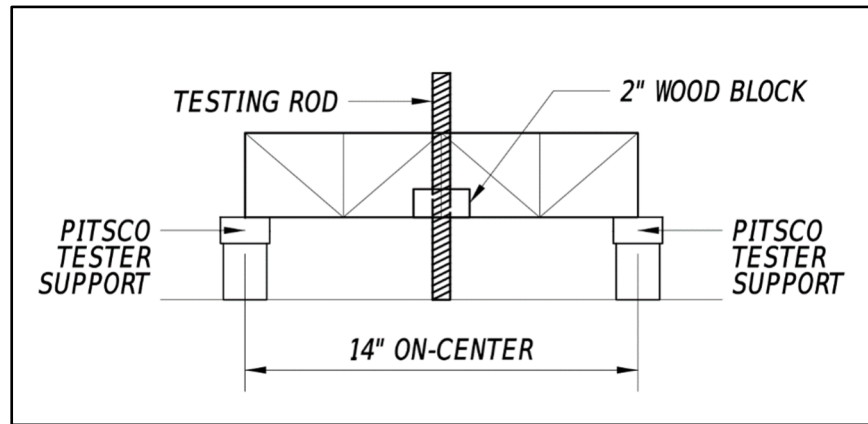
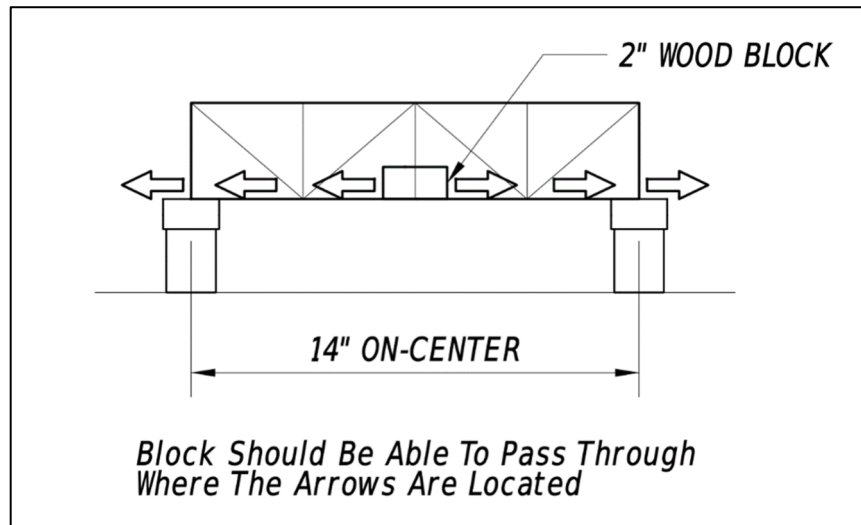
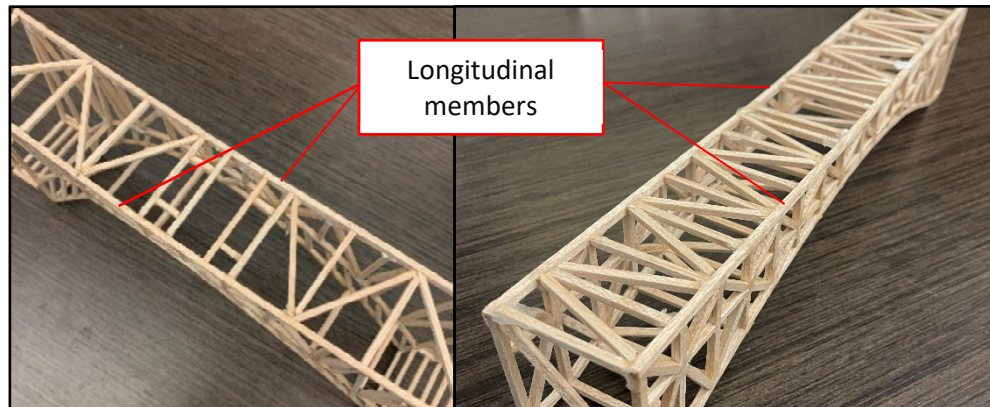

Figure 6. Tester Configuration Detail
Figure 8. Block Requirement
Figure 9. Acceptable Cross Framing
- e) End to end, the length of the entire bridge must be 14 inches, refer to Figure 6.
- g) The area where the bridge will be loaded (center of the bridge) must have at least a $\frac{3}{4}$ -inch hole to allow a $\frac{5}{8}$ -inch testing rod to pass through. The rod must also be able to pass through full height of the structure to insert the rod into the tester. This is required to attach the rod to a 2-inch x 2-inch x 1-inch block of wood used for strength testing by the Pitsco Tester. An example configuration can be seen in Figure 6. The block of wood must be able to pass through the loading surface of the bridge (a bridge deck of any kind is not allowed), refer to Figure 8. No more than 2 longitudinal members will be permitted in the top of the bridge structure, refer to figures 9 & 10 for more detail. Please note, diagrams do not represent the required design and shall only be used for reference.
- h) Tester supports will be placed at 14 inches on center. Support dimensions are shown above in Figure 6.
- j) The following will result in a bridge receiving a strength-to-weight ratio of zero (0). PLEASE NOTE, if you have questions or concerns of violating any of these please contact us.
- III. Laminations greater than two (2) layers in any direction (see photos above).